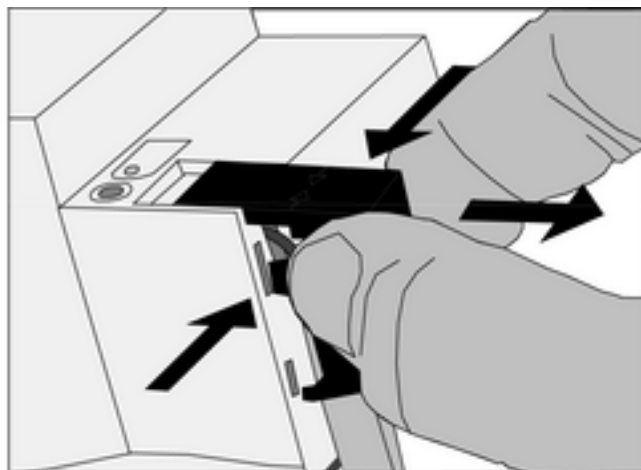

Figure 8: Removing the cover
- Press the cover to the side and pull it off (Figure 8).